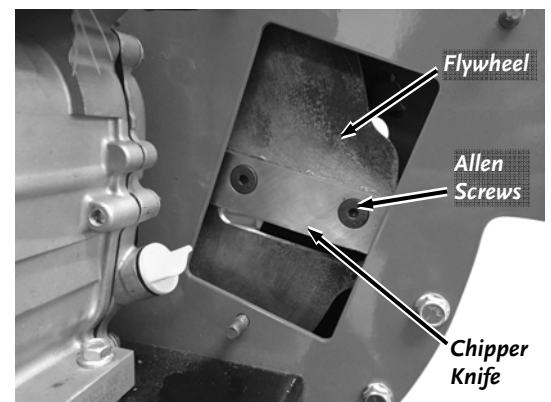

Figure 23
4. Clean out the heads of the Allen Screws with an awl or sharp tool (**Figure 23**).